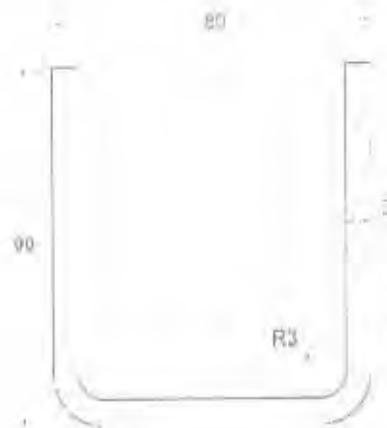

Fig No. 2
3. (a) A circular cup as shown in figure no. 2 is manufactured by using deep drawing operation. (Material: MS Cup, Thickness: 2mm, Yield Strength: 35 kgf/mm²). Determine following. 20